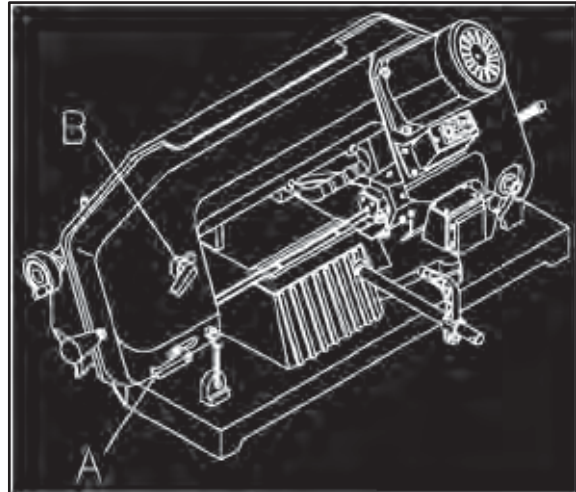

Fig. 7
1. If the part is large, undo lever (A) of Fig. 7. Move the guide by about 2.5 cm towards the part, then tighten the lever again.